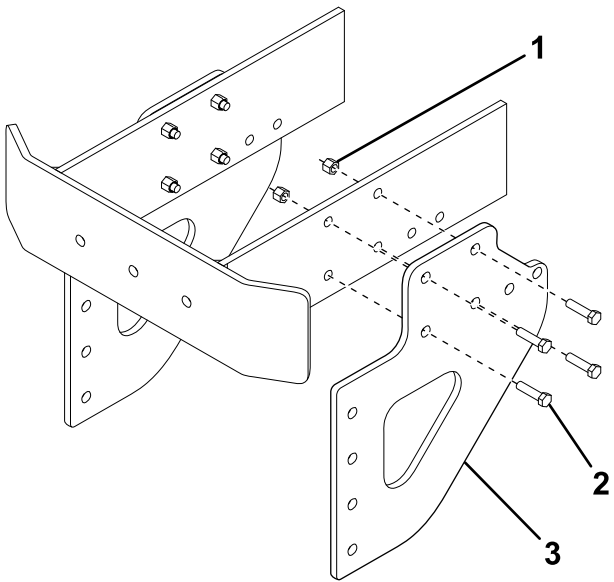

Figure 2
3. Install the side plates using 4 bolts and nuts, as shown in Figure 2.